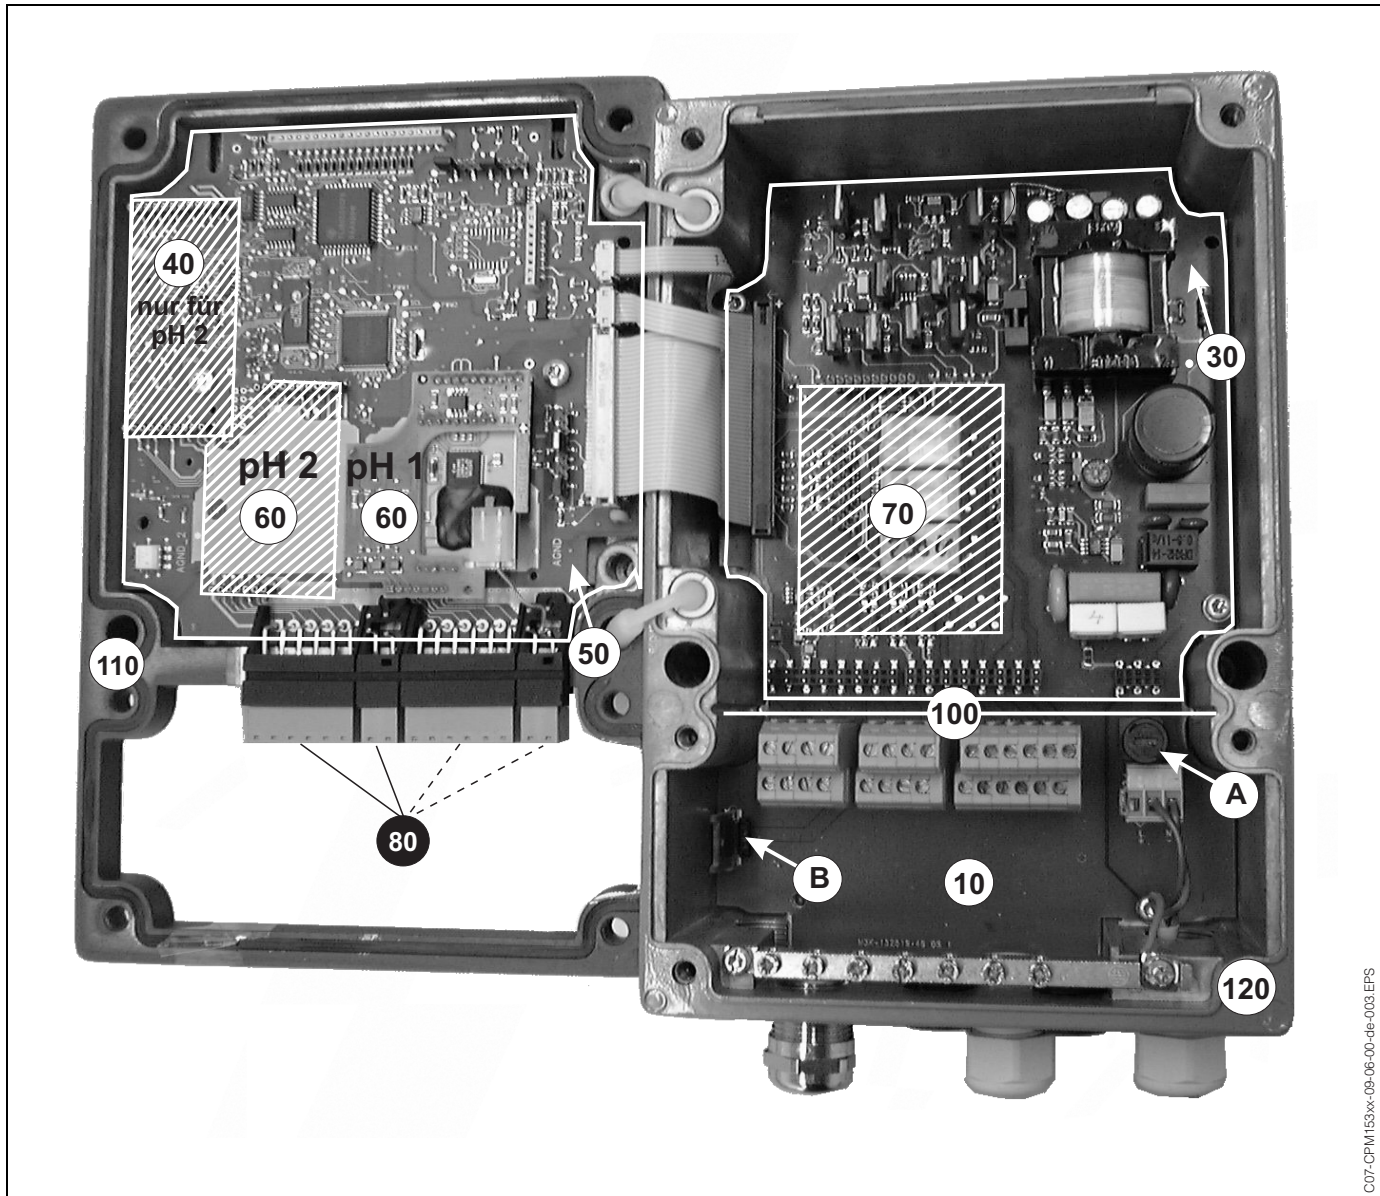

fig. 34: Interior view of the transmitter Mycom S
- Position of the fuse holder: "A" in fig. 34